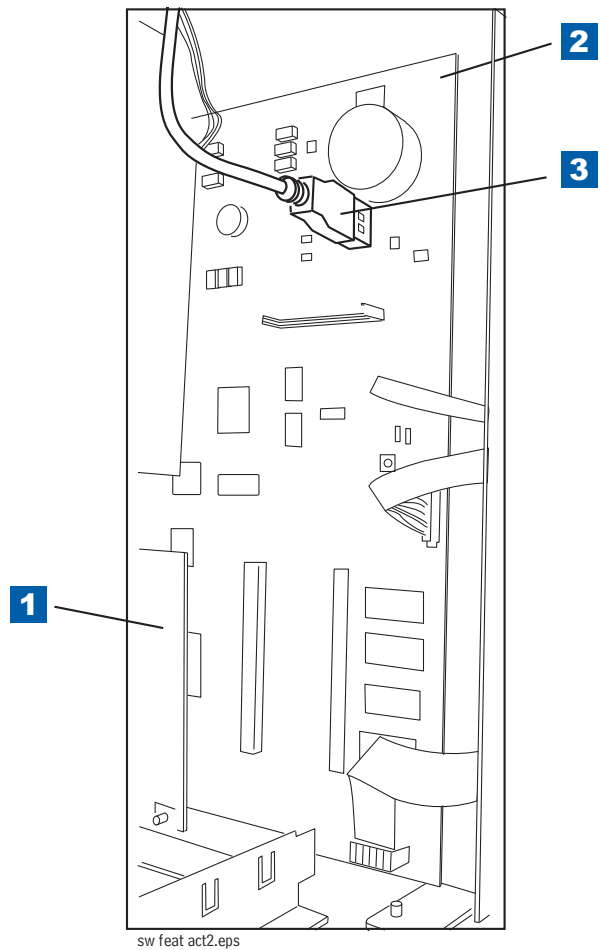

Figure 1. Locating Printer's USB connector
3. Disconnect the Printer's USB cable from its connector on the CPU board and insert your V-R Backup thumb drive (P/N 330020-607) into the CPU USB connector as shown in Figure 1 below.